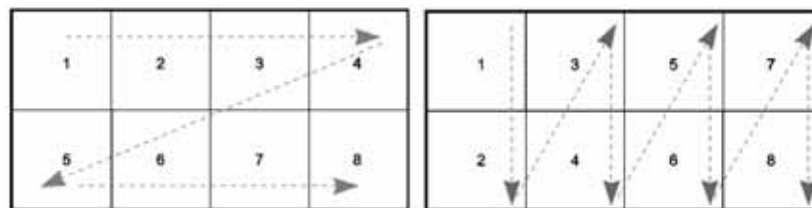

FIGURE 3-11 STANDARD (LEFT) AND ALTERNATE (RIGHT) DISPLAY NUMBERING
2. Connect the other 2 ends of each cable to your display devices. The way you connect these should reflect how you want to number your display devices. By software default, display numbering begins from the top-left of the display wall and continues across each row and down (**Figure 3-11**).